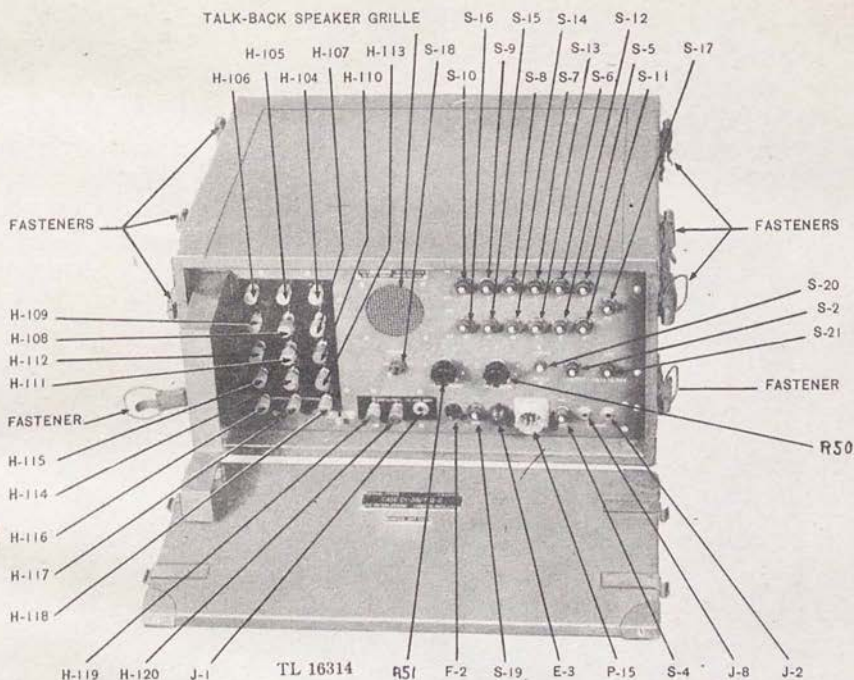

Figure 2. Control Unit C-104/TIQ-3 and Case CY-38/TIQ-2.
a. Control Unit C-104/TIQ-3 (fig. 2). All control knobs, switches, power, input, and output connectors necessary for the operation of Control Unit C-104/TIQ-3 are mounted on its front panel. The control unit amplifies the signal from any one of three sources: the sound input of Handset TS-13-(); the signal from the constant-, intermittent-, or warble-tone generators; or the sound input of any one of the Loudspeakers LS-104/TIQ-3 when the intercommunication feature is used. It also receives and distributes the output of Amplifier AM-34/TIQ-3. The circuit of the control unit is described on a label mounted on the inside of the base plate. The unit is fastened by six screws in a Case CY-38/TIQ-2 marked CONTROL UNIT. This case is constructed of plywood, heavily reinforced with a steel frame and corners. The front cover of the case is secured with catch fasteners, and is removable. A neoprene weatherproof gasket is fastened to the removable front cover to protect the control unit against moisture. It does not protect the unit, however, in event of total immersion in water. Carrying handles are provided at each end of the case. Catch fasteners are attached to the sides of the case at both top and bottom to permit several cases to be fastened together during storage or transportation.